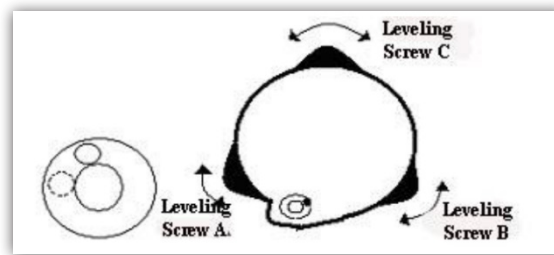

Figure 4-1
a. Turn the leveling screw A and B to move the bubble in the circular vial as below Figure 4-1 shown, in which case the bubble is located on a line perpendicular to a line running through the centers of the two leveling screw being adjusted.